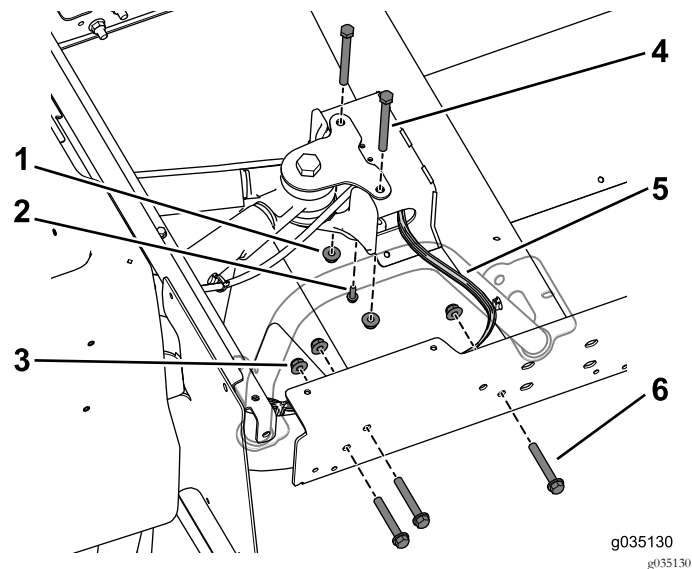

Figure 68
7. Remove the bolts and flange nuts that secure the swing arm mount to the center channel (Figure 68).